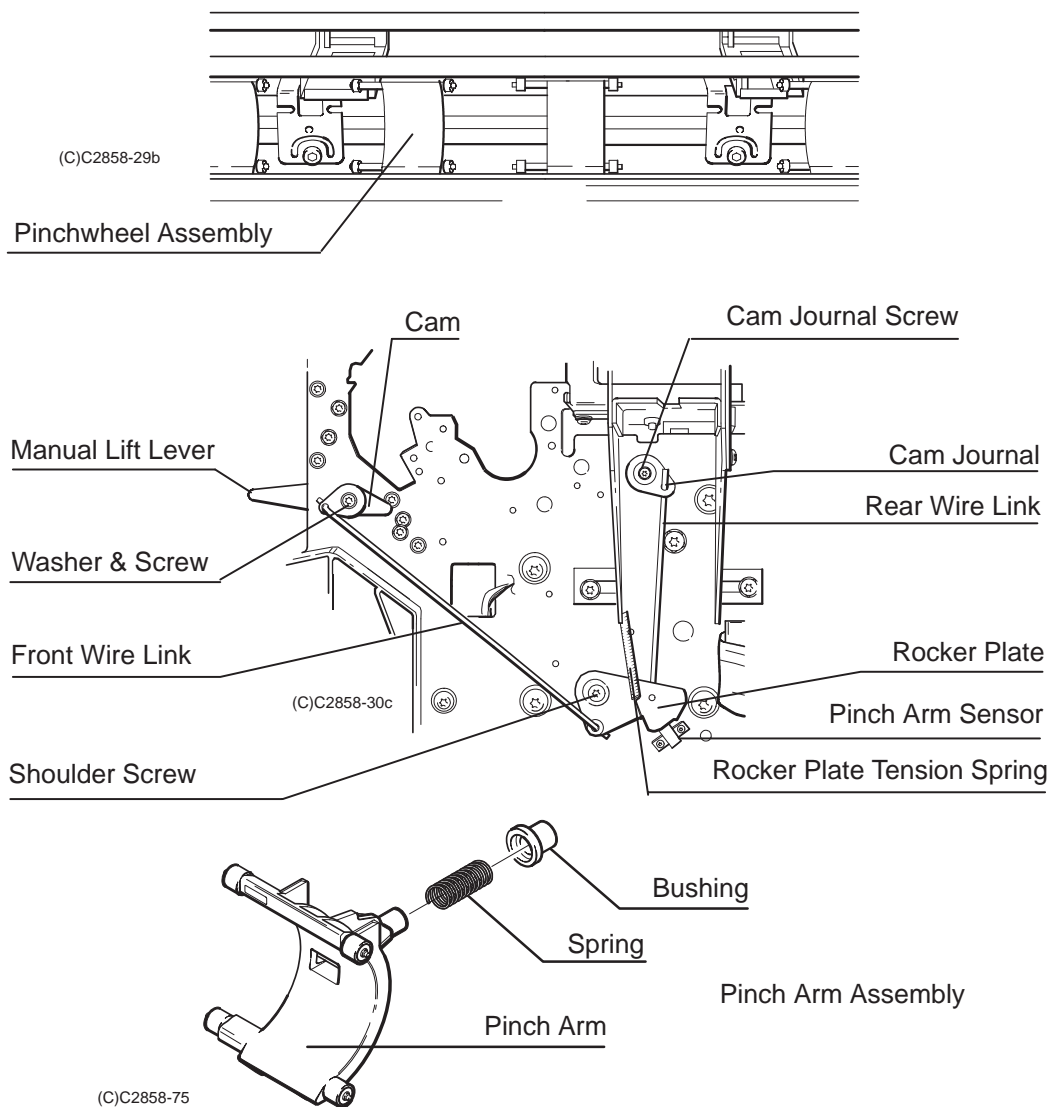

Figure 6-37.
8. Disconnect the rocker plate tension spring to relieve any remaining tension on the pinch arm lift mechanism. See Figure 6-37.